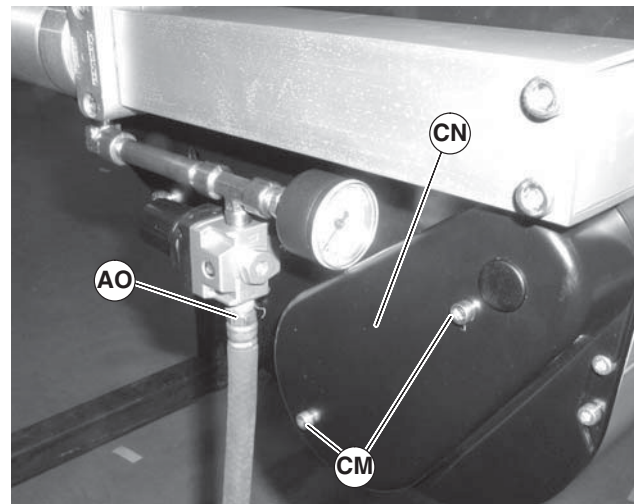

Figure 90
1. Remove air supply (Figure 90, item AO) from center drive module.
2. Remove screws (Figure 90, item CM) and cover (CN).
8. Reinstall cover (Figure 90, item CN). Tighten screws (CM) to 69 in-lbs (8 N-m).